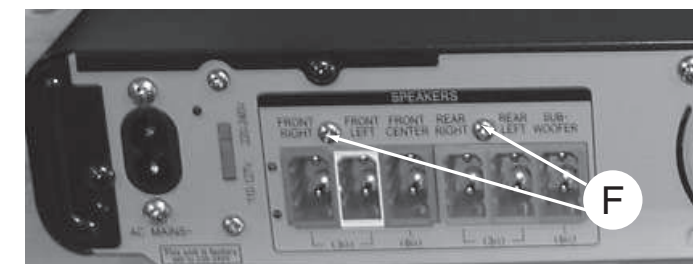

Figure 9
- 2 screws "F" at the back panel as shown in figure 9